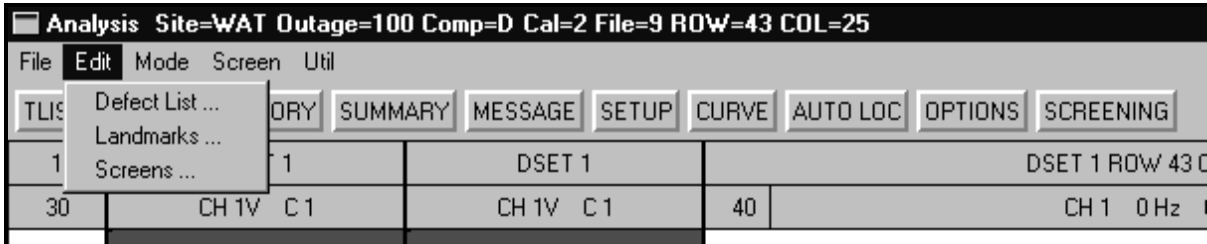
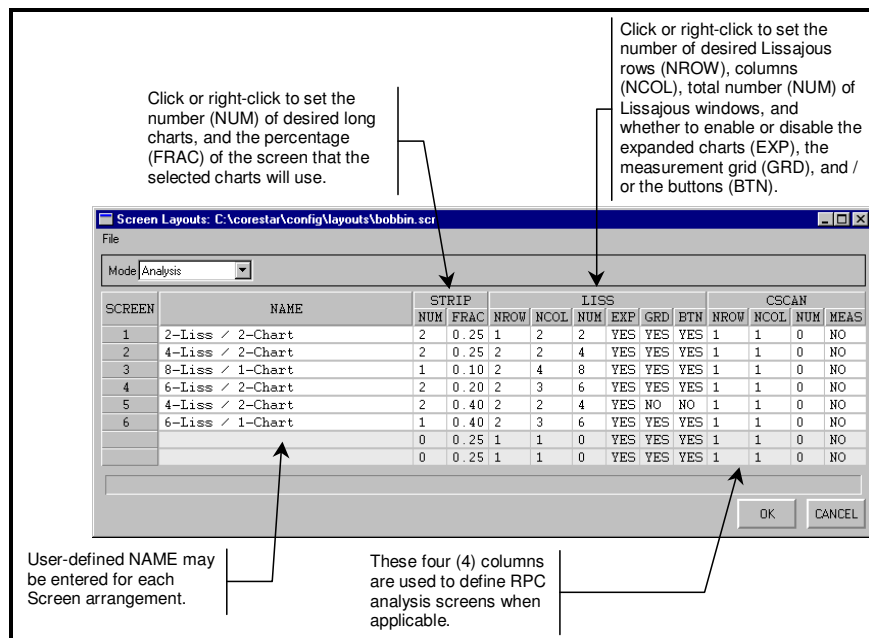

Figure 3-7. Main Window Edit Menu
Figure 3-15. Screen Layouts Window
As shown in Figure 3-7, the **Edit** menu contains three choices. They are: **Defect List ...**, **Landmarks ...**, and **Screens ...**.
- **Edit > Landmarks ...:** Selecting **Landmarks ...** from the **Edit** menu in Figure 3-7 causes the window in Figure 3-13 to appear. The window contains two tabs named **User Defined** and **System**. Selecting the **System** tab as shown in Figure 3-13, displays the landmarks within the component file (.cmp) selected in the **SUMMARY** window. A component file is created by the MakeComp software program which contains not only the tubesheet details of the component, but many other parameters including a landmark table.
- ❑ **Edit > Screens ...:** Selecting **Screens ...** from the **Edit** menu in Figure 3-7 causes the window in Figure 3-15 to appear. This dialog allows the user to setup a total of eight (8) display screens. Each screen is given a user-defined name, which appears under the **Screen** menu on the main window discussed in the next topic. Review Figure 3-15 for the details of each setting. The analysis software must be restarted for newly entered screen layouts to take effect.